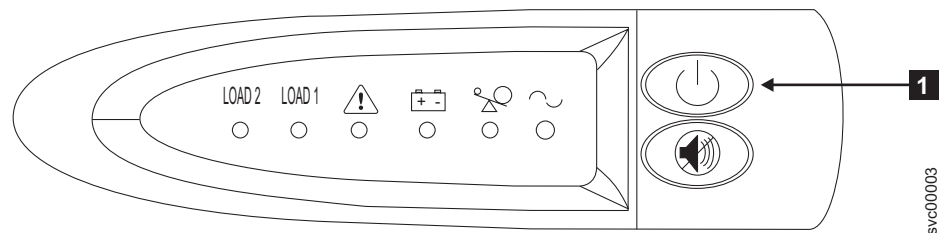

Figure 115. 2145 UPS-1U front panel assembly
1. At the front of the 2145 UPS-1U, press and hold the on/off button **1** until the power light is extinguished (approximately five seconds). See Figure 115. The 2145 UPS-1U enters standby mode.